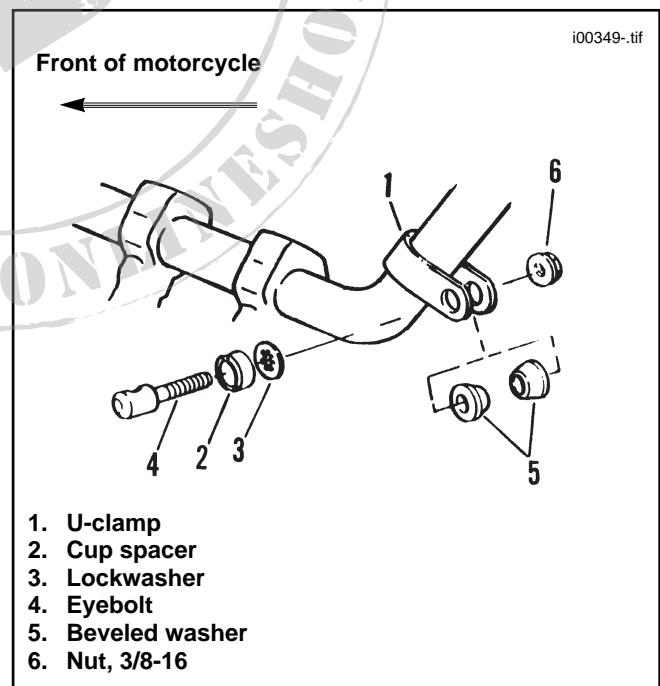

Figure 1. U-clamp Installation
1. See Figure 1. Place U-clamps (1) around vertical portion of handlebar, with open end of clamp facing downward. Using a hand pliers, lightly squeeze ends of U-clamp together.
2. Place cup spacer (2) and internal lockwasher (3) on eyebolt (4). Start slipping eyebolt through U-clamp from outside of handlebar. Continue inserting eyebolt through two beveled washers (5) (placed between U-clamp prongs, bevels facing each other) and out through other side of handlebar clamp.
3. Install 3/8-16 nut (6) on eyebolt (4), but do not fully tighten. Repeat procedure on other side of handlebar.